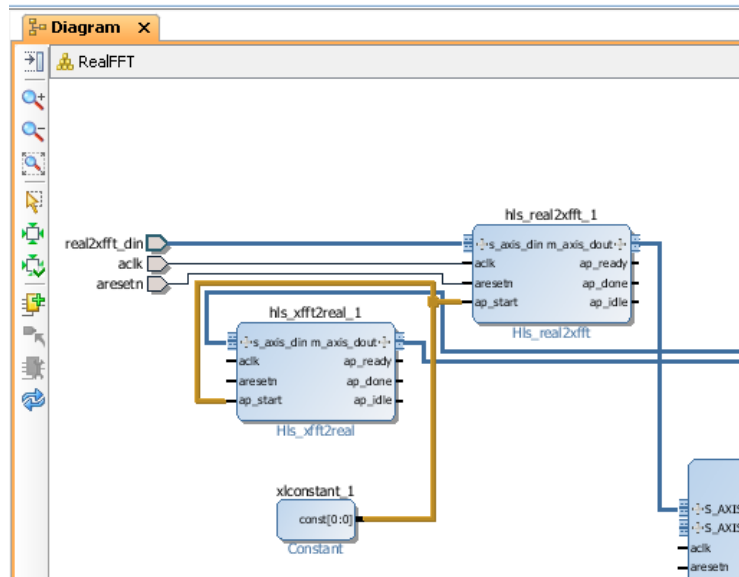

Figure 206: Connect AP_START to Constant 1
- f. Connect `ap_start` of both HLS blocks to the Constant block (Figure 206).